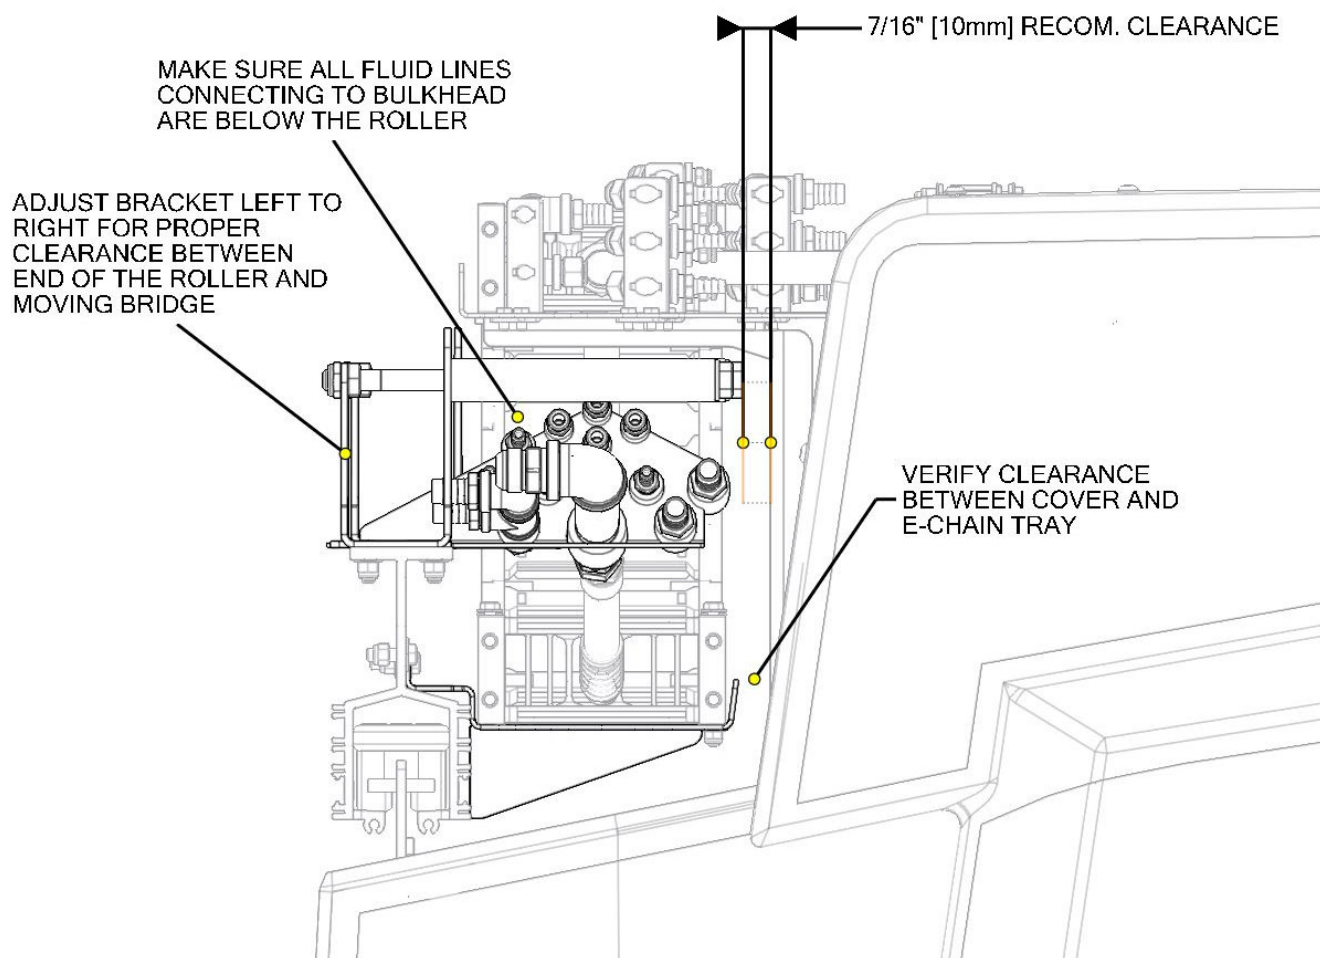

Figure 80 – E-chain Roller Adjustment and Clearance
- Check that the support roller is perpendicular to the E-chain. When the rollers are in the proper final position, tighten fasteners to secure, Figure 80.